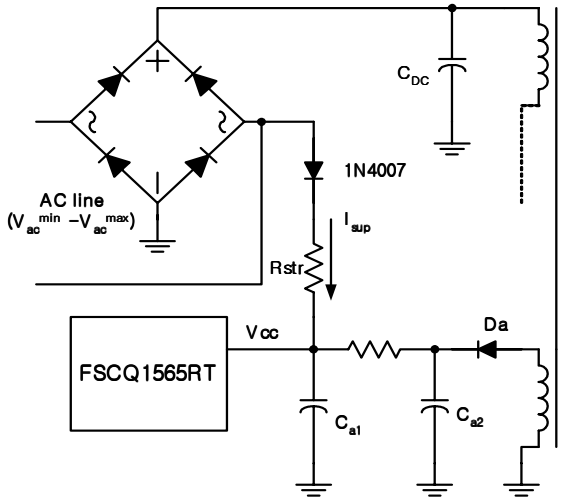
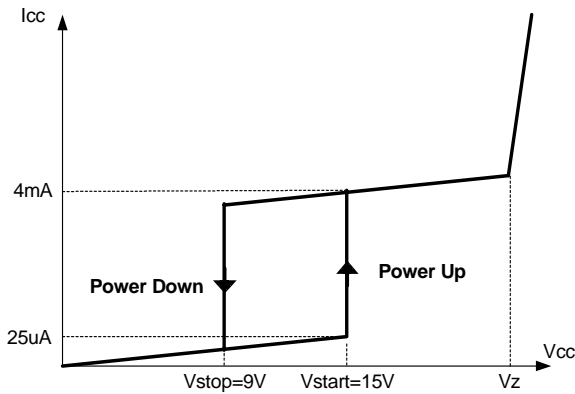

Figure 4. Startup circuit
Figure 5. Relation between operating supply current and V_{cc} voltage
1. **Startup** : Figure 4 shows the typical startup circuit and transformer auxiliary winding for FSCQ1565RT application. Before FSCQ1565RT begins switching, FSCQ1565RT consumes only startup current (typically 25uA) and the current supplied from the AC line charges the external capacitor (C_{a1}) that is connected to the V_{cc} pin. When V_{cc} reaches start voltage of 15V (V_{START}), FSCQ1565RT begins switching, and the current consumed by FSCQ1565RT increases to 4mA. Then, FSCQ1565RT continues its normal switching operation and the power required for this device is supplied from the transformer auxiliary winding, unless V_{cc} drops below the stop voltage of 9V (V_{STOP}). To guarantee the stable operation of the control IC, V_{cc} has under voltage lockout (UVLO) with 6V hysteresis. Figure 5 shows the relation between the FSCQ1565RT operating supply current and the supply voltage (V_{cc}).